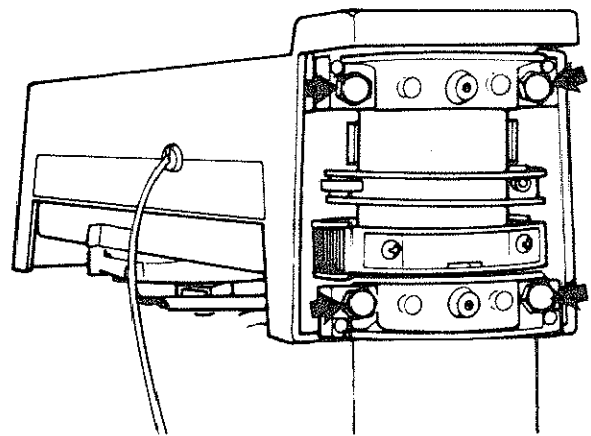

Fig. 125 - Location of Hex Head Screws
2. With a 9/16 inch wrench or socket, tighten evenly the top two 3/8-16 hex head screws. The bottom two screws should also be tightened evenly but not as tight as the top screws. (Figure 125)